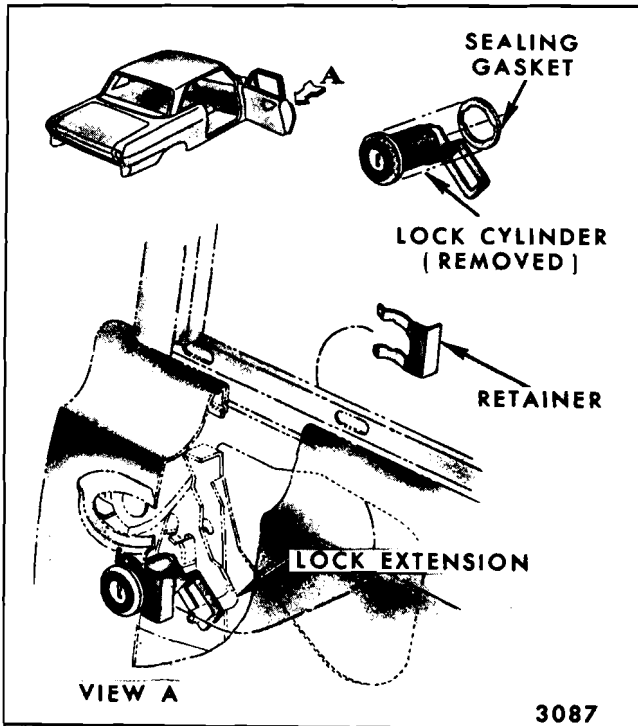

Fig. 6-68—Front Door Lock Cylinder Removal - All Styles
2. With a screwdriver or other comparable tool, slide lock cylinder retaining clip (on door outer panel) out of engagement and remove lock cylinder from door (Figure 6-68).